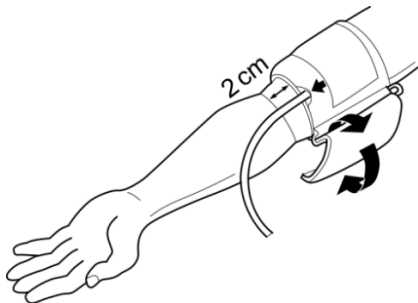

Fig. 8: Correct position of blood pressure cuff
5. Position the blood pressure cuff correctly (see Fig. 8):